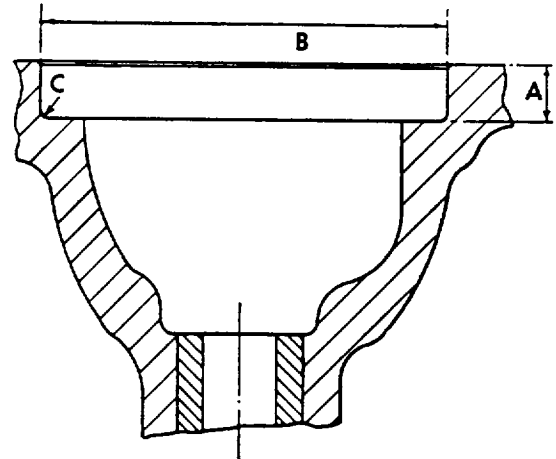

Fig. E.6.
2. Using the new valve bore as a pilot, machine the recess in the cylinder head face to the dimensions shown in Fig. E.6.